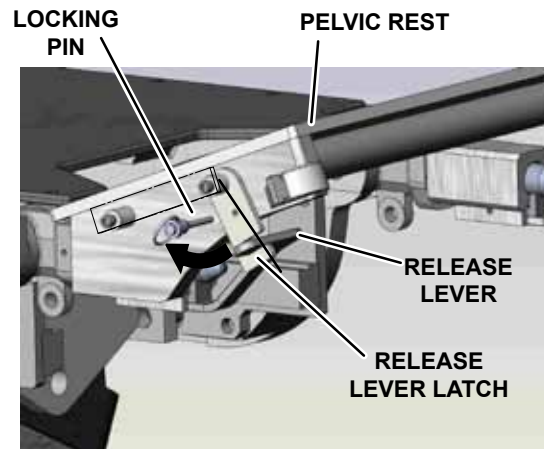

Figure 15. Release Lever
1. If the optional release lever latch is provided, remove the locking pin and rotate the latch clockwise to unlock the release lever (Figure 15).